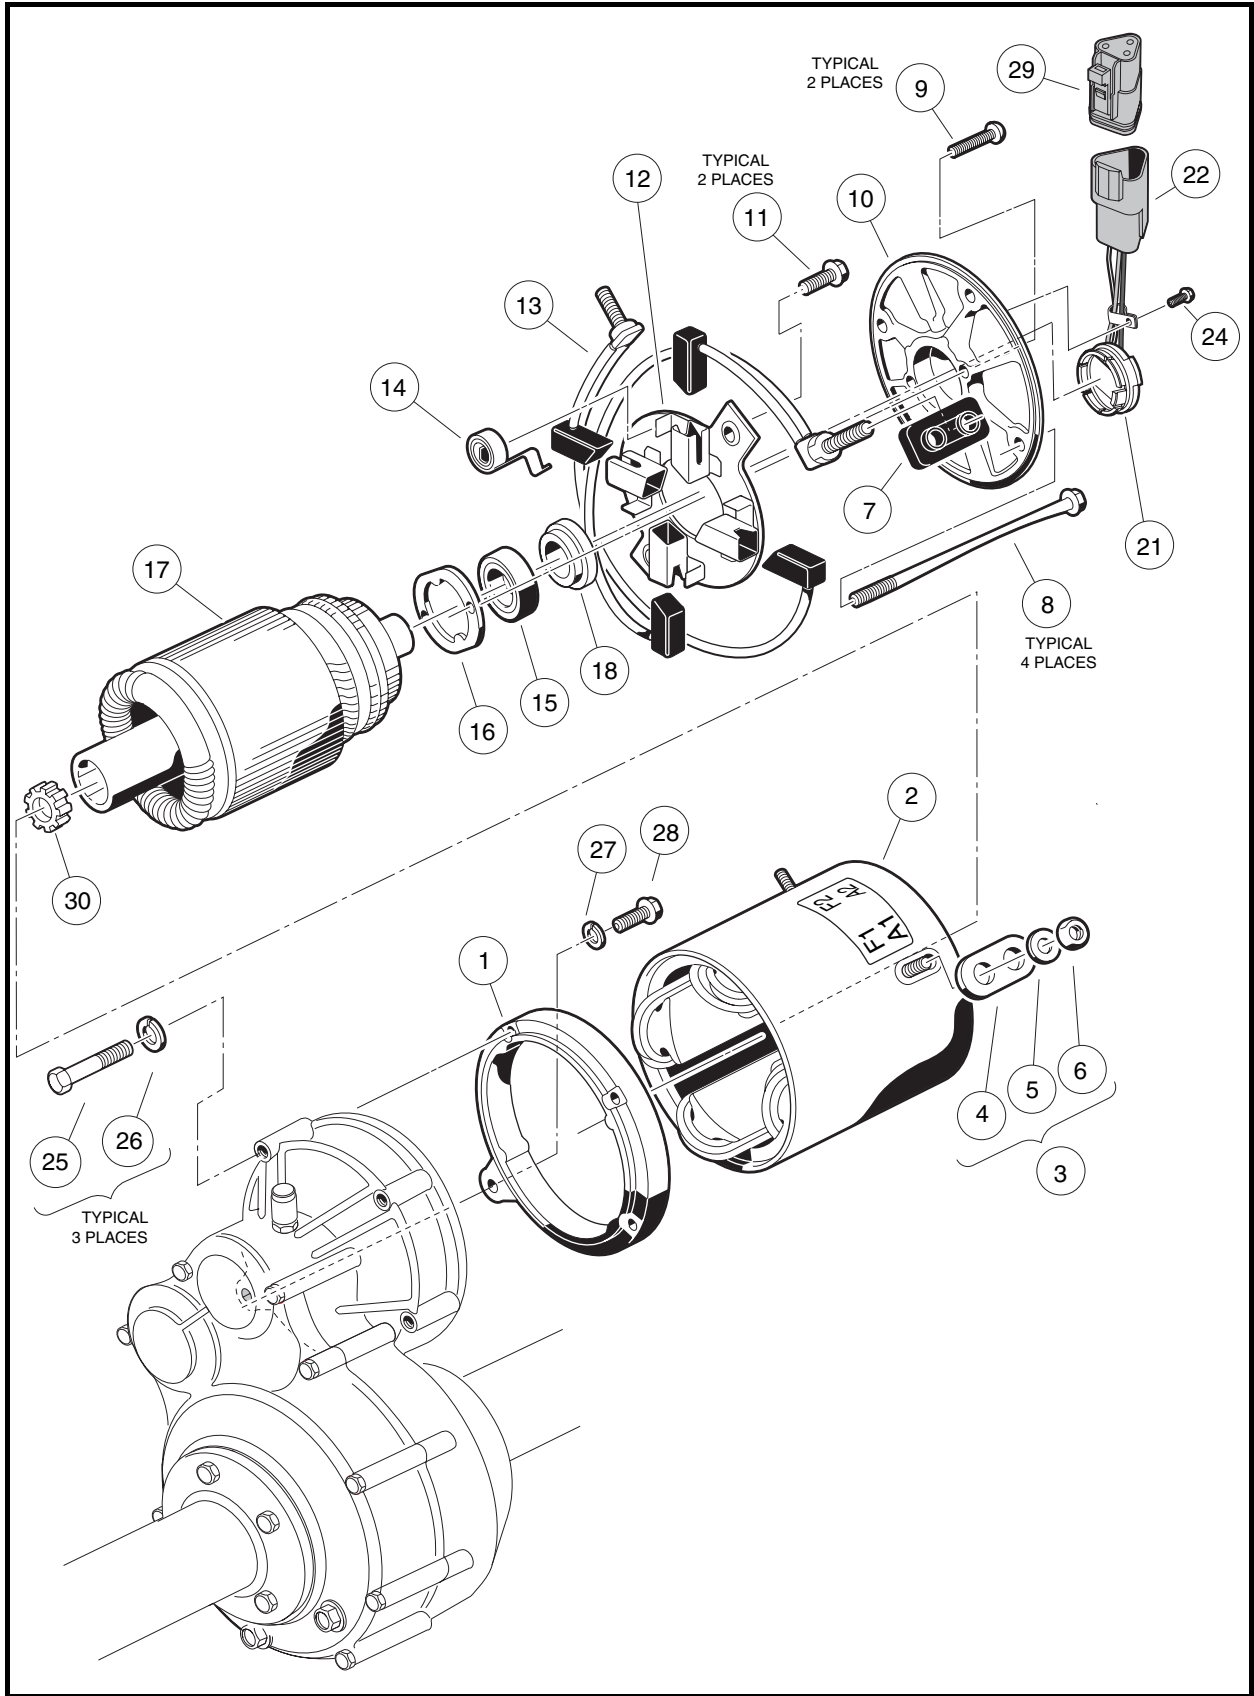

Figure 16a-9 Motor
Inspect the speed sensor magnet (18) for rust, wear, and cracks (**Figure 16a-9, Page 16a-8**). Replace the magnet if necessary.
1. To remove the speed sensor magnet (18), remove the motor bearing (**Figure 16a-9, Page 16a-8**). See **Bearing Removal on page 16a-7**.